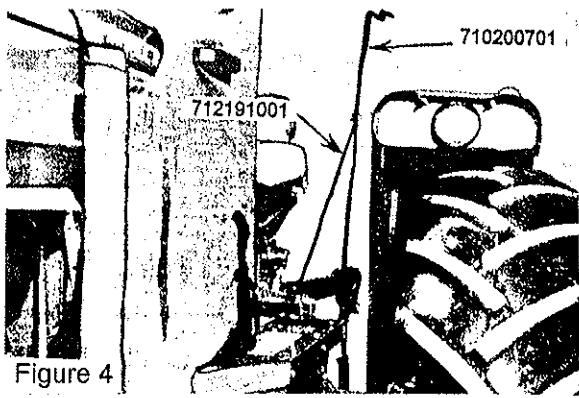

Figure 4
9. Remove two (2) bolts from rear edge of platform on left and bolt #710200701 door latch and #712191001 latch brace to platform using 5/16" x 1 1/2" hex head bolt going through latch only. Bolt top of brace to latch using 5/16" x 3/4" hex head bolt and nut. See Figure 4.